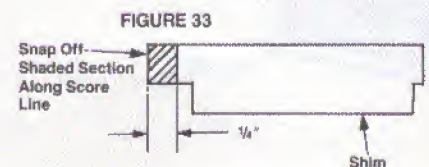

FIGURE 33
5. **NOTE:** On models having black handles and trim it will be necessary to modify a small black plastic shim located behind the top end of the upper trim piece on the handle side of the door. Remove shim by sliding part to the right. See Fig. 32 and 32A. Modify per Fig. 33, then reinstall shim by sliding it back into place.